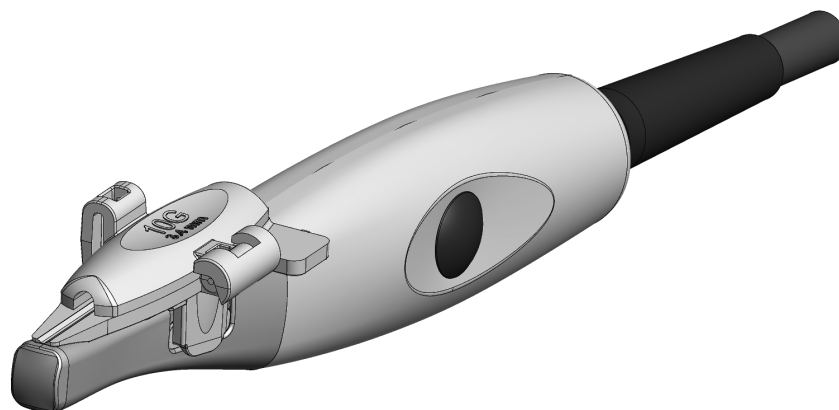

Figure 12. UA1346 mounted on transducer Type 8863 (shown here without transducer cover).
- 7 Figure 12 shows the needle guide mounted on the transducer.